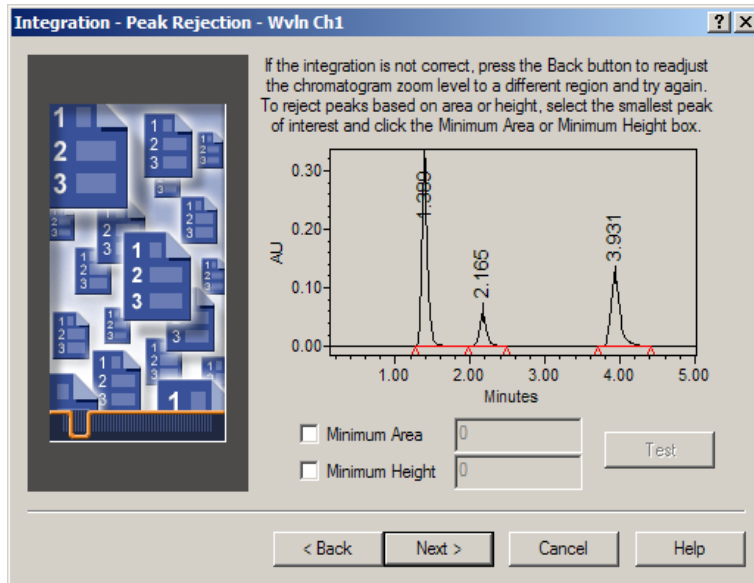

Figure 4-21 Integration - Peak Rejection Page
9. If you want to inhibit integration, follow the wizard instructions and use the mouse to draw a zoom box that encloses the area where you want integration to occur. Integration is inhibited in the area *outside* of the zoom box. The software displays the zoomed selection. Click **Next** to go to the Integration - Peak Rejection page (Figure 4-21).